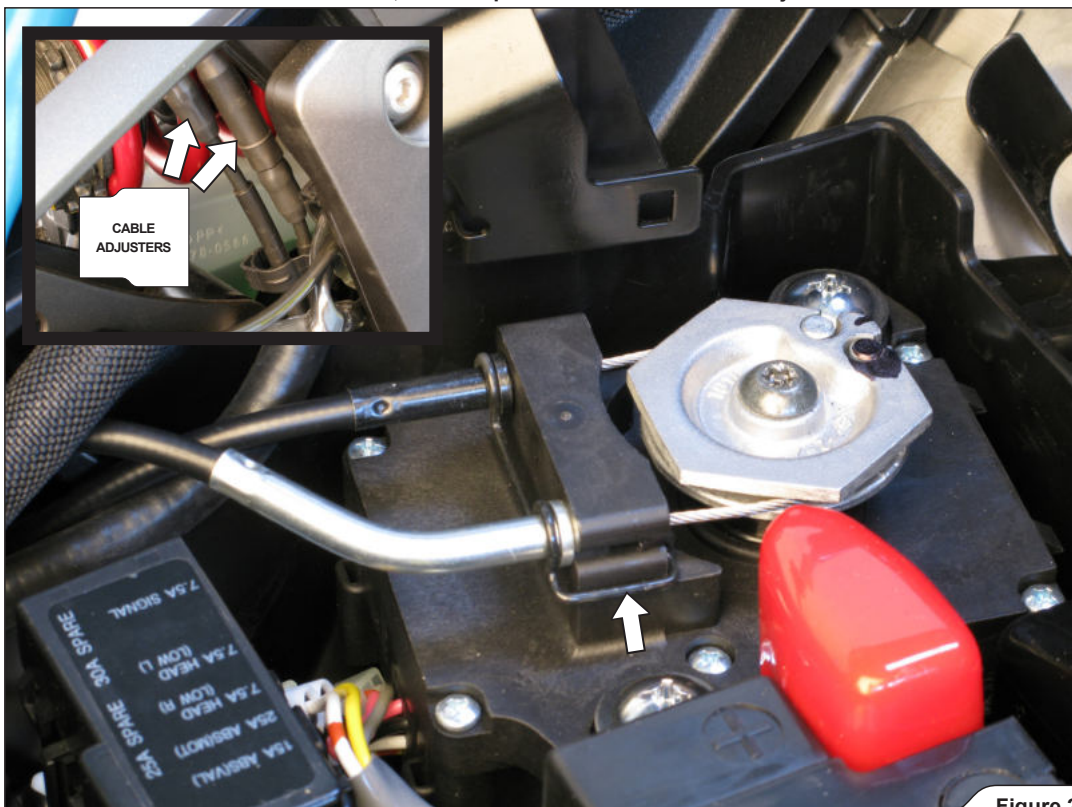

Figure 2
3. **For Z1000 model only:** undo the safety pin and remove the exhaust valve cables off the servo motor (**Figure 2, 3**).